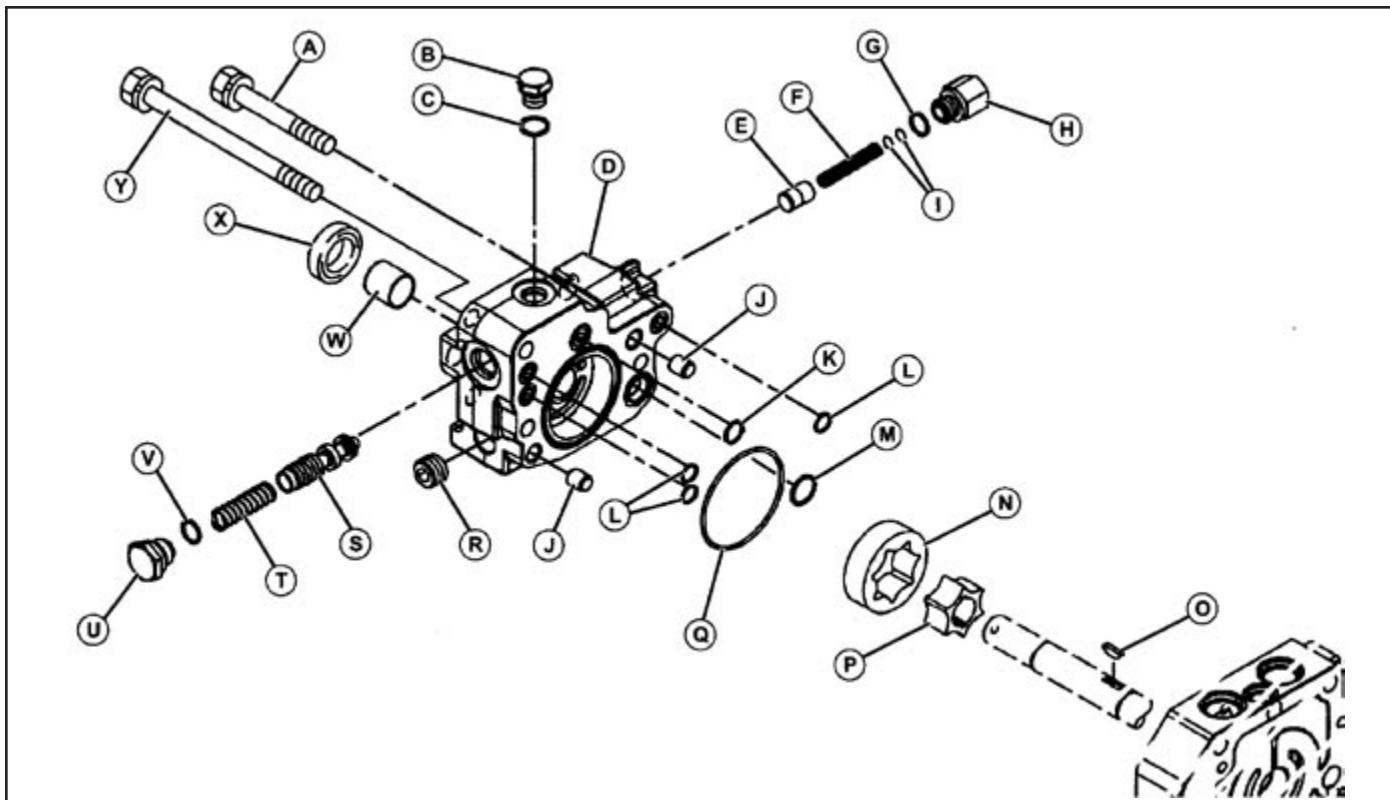

Fig. 3, Charge Pump Disassembly
2. Remove two (2) short (A) and one long (Y) cap screw. (Fig. 3)
1. Disassemble all parts of charge pump (D). (Fig. 3)
2. Inspect O-rings (C, K, L, M, and Q) for cuts or damage. Replace as necessary. (Fig. 3)
4. Remove plug (U) to remove pressure reducing valve parts (V, S, and T). (Fig. 3)
6. Check small orifice in reducing valve (S) spool for obstruction.
8. Remove plug (H) to remove charge pressure relief valve parts (E, F, G, and I). (Fig. 3)
11. Inspect seal (X) and bushing (W) for wear or damage.